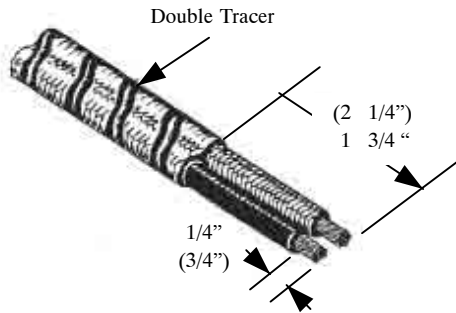

Figure 40. Stripping Thermocouple Wire for Terminal and AN5537 Connector Installation
57. **STRIPPING THERMOCOUPLE WIRE.** Remove outer covering of thermocouple wire with a knife by slitting between parallel conductors and trimming the fabric braid with scissors or diagonal pliers. The stripping dimensions for each use are shown in Figures 40 through 42. Note that longer stripped lengths are required if the wires are to be resistance tinned. Use a hand stripper, as illustrated in WP 009 00, for removing the primary insulation from each conductor.